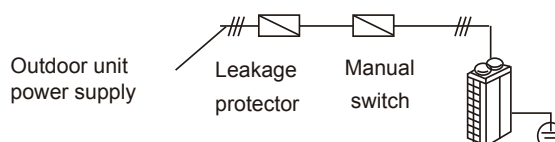

Fig.6-1
- All the indoor units in a system (i.e. all the indoor units connected to the same set of outdoor units) should be tied into the same power circuit with the same power supply, overcurrent and residual current protection (leakage protection) and manual switch, as shown in Figure 6-1. Do not install separate protectors or manual switches for each indoor unit. Powering on and shutting down all indoor units in a system should be done simultaneously. The reason for this is that if an indoor unit that is running were to suddenly power off whilst the other indoor units continued running, the evaporator of the powered-off unit would freeze since refrigerant would continue flowing to that unit (its expansion valve would still be open) but its fan would have stopped. The indoor units that remain running would not get sufficient refrigerant so their performance remain running would not get sufficient refrigerant so their performance would suffer. Additionally, liquid refrigerant returning directly to the compressor from the powered-off unit would cause liquid hammering, potentially damaging the compressor.